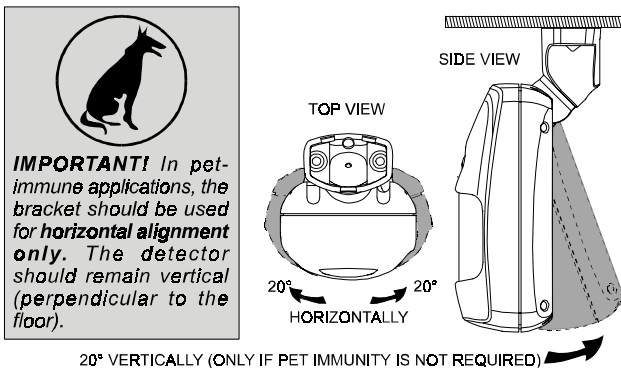

Figure 6. Tilt/Swivel Limits
- H. Swivel the detector horizontally to face the desired direction, but do not tilt it if this is a pet immune application. However, if pets are not present it is advisable to tilt the detector as much as 20° down. Figure 6 shows the tilt/swivel possibilities.